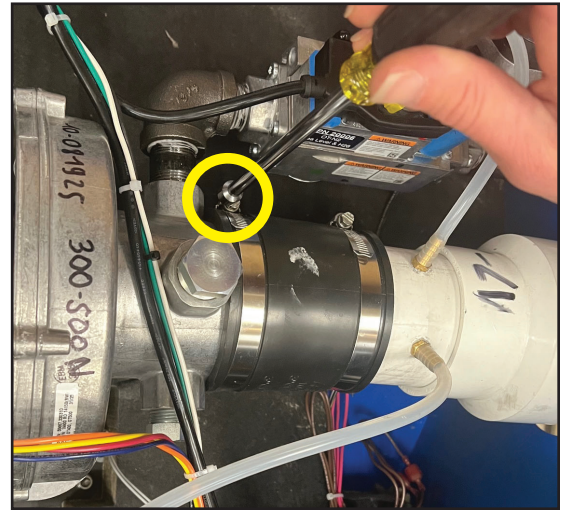

Fig. 29
4. Disconnect the air intake from the blower by loosening the band clamp closest to the blower, ensuring the air intake pipes are properly supported (Fig 29).